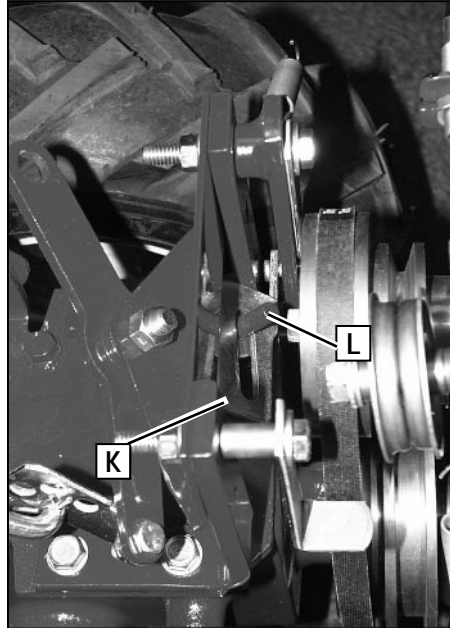

Figure 5-19: Place link over adjusting pin.
- a). Place the slot in the forward adjustable link (K, Figure 5-19) over the link adjusting pin (L).